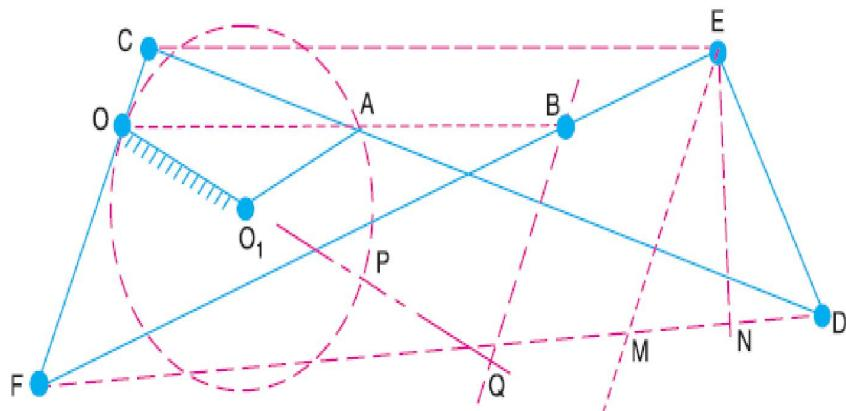

Fig. 4.3 Hart's Mechanism
- It consists of a fixed link  $OO_1$  and other straight links  $O_1A$ ,  $FC$ ,  $CD$ ,  $DE$  and  $EF$  are connected by turning pairs at their points of intersection, as shown in Fig. 4.3.